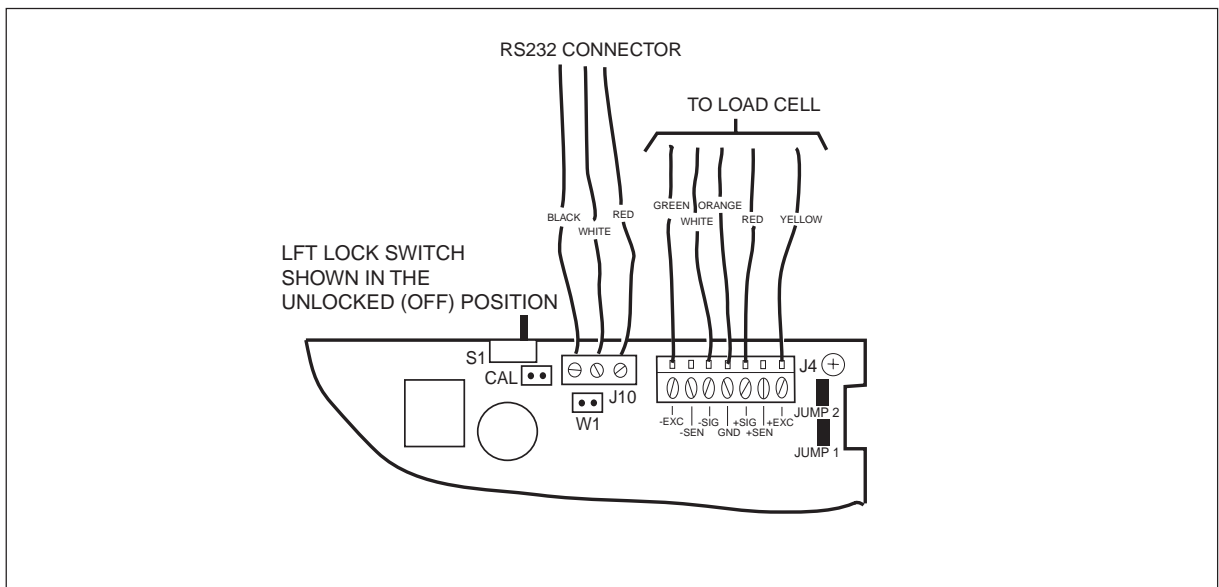

Figure 3-2. Trooper Scale RS Connector and Loadcell Connector Wiring.
6. Replace the color coded wiring for connectors J4 and J10. Check color coded wiring is correctly installed. See Figure 3-2 for wire color and locations.
2. Carefully remove the load cell wires from connector J4. See Figure 3-2 for wire color and locations.
5. Connect the color coded wiring from the load cell to connector J4. Check that color coded wiring is correctly installed. See Figure 3-2.